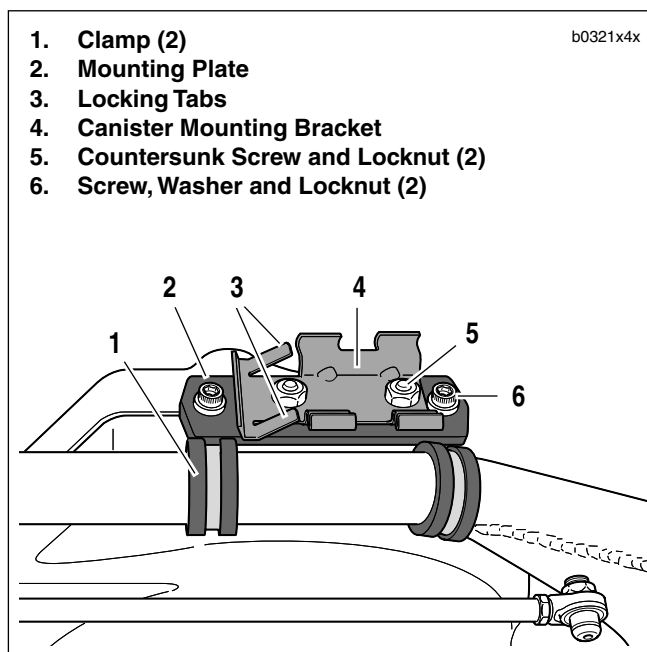

Figure 4-112. Carbon Canister Mounting
3. See Figure 4-112. Depress both locking tabs (3) on the canister mounting bracket (4). Slide canister towards the front wheel until it disengages from the mounting bracket and remove.
4. Remove screws, washers and locknuts (6) to detach mounting plate (2) from clamps (1).
5. Remove countersunk screws and locknuts (5) to separate bracket (4) from mounting plate (2).
1. See Figure 4-112. Install canister mounting bracket (4) on mounting plate (2) with countersunk screws and lock-nuts (5).
2. Install mounting plate assembly on frame by attaching mounting clamps (1) using screws, washers and lock-nuts (6). Tighten to 6-8 ft-lbs (8-11 Nm).
3. Depress locking tabs (3) and slide canister into locked position on canister mounting bracket (4). Locking tabs (3) must engage canister; bend tabs outward somewhat if canister is not held securely.